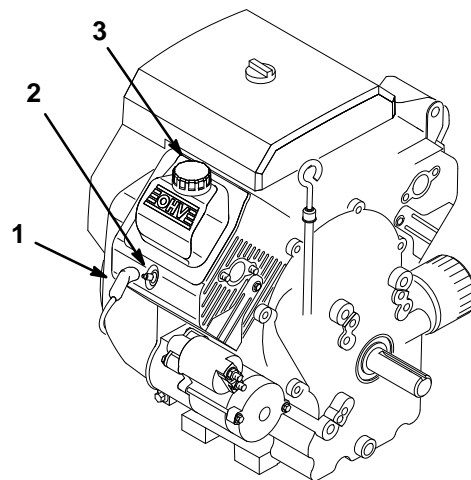

Figure 27
6. Slowly pour approximately 80% of the specified amount of oil into the oil filler tube (Fig. 27). Now check the oil level; refer to Checking the Engine Oil Level, page 11. Slowly add additional oil to bring the oil level to the FULL mark on the dipstick.
3. Pull the wire(s) off the spark plug(s) (Fig. 27). Now clean around the spark plug(s) to prevent dirt from falling into the engine and potentially causing damage.
3. Push the wires onto the spark plugs (Fig. 27).